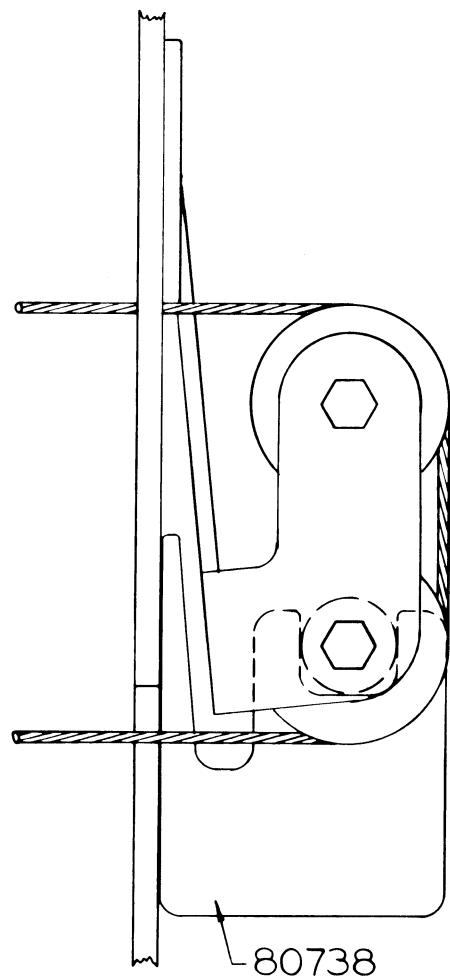
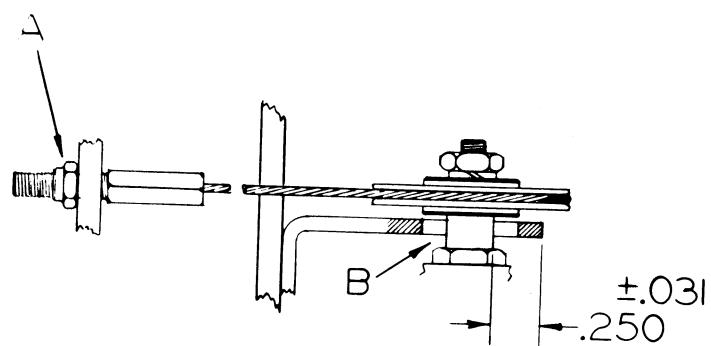

FIG. 7-10.1
FIGURE 7-10
- (1) Refer to Figure 7-10, which shows the tension adjustment. Note that this calls for lengthening or shortening the effective length of the cable, until the shaft of the spring-loaded pulley is centered in the hole of the pulley mounting bracket on the right side of the chassis. When the spring flexure has been installed, refer to Figure 7-10.1 which shows the adjustment using gauge No. 80738. Slide this gauge along the side frame, touching the underside of the pulley. Cable tension is correct when the ball bearing is aligned with the gauge opening.
- (2) To make the adjustment, use a pair of pliers to hold the flattened portion of the swaged fitting attached to the end of the drive cable. This precaution must be observed, to avoid imparting any unwanted twist to the drive cable.
- (3) Use a 3/16" wrench to turn the adjustment nut  shown in the illustration, until the desired adjustment is obtained. This completes the tension adjustment.